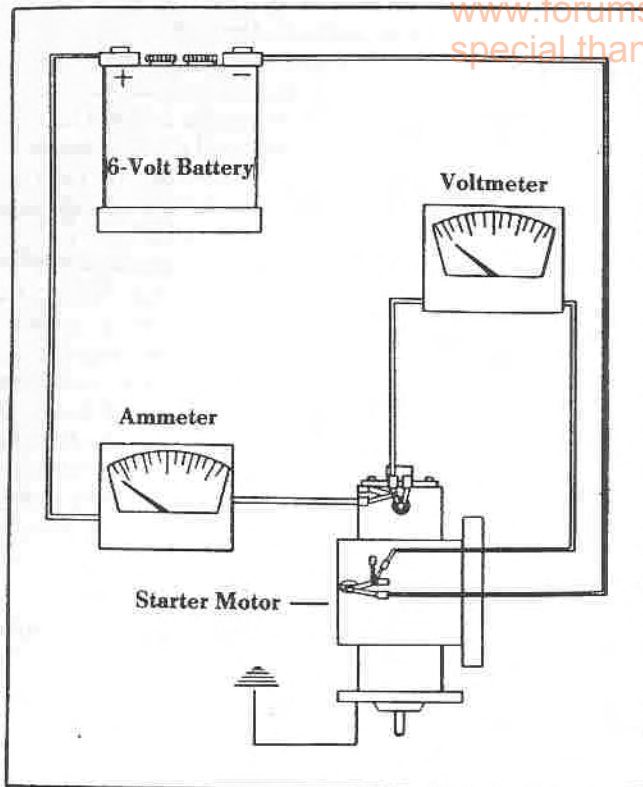

Fig. 5
1. Connect starter with an ammeter in series to a 6-volt source (Figure 5). Use a tachometer or r.p.m. indicator to indicate armature speed.